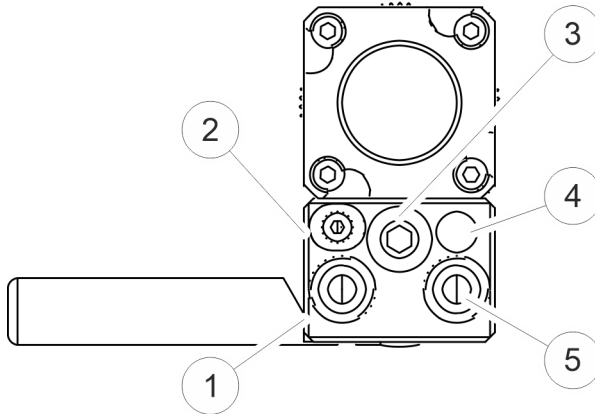

Fig. 11: Connecting the automatic spray gun
1. ➞ Connect control air "OPEN" to "ST A" ( Fig. 11/2).
2. ➞ Connect control air "CLOSED" to "ST Z" ( Fig. 11/4) (optional).
3. ➞ Connect the flat jet air connection to "F" ( Fig. 11/3).
4. ➞ Connect the material supply to input "M←" ( Fig. 11/1).
5. ➞ Connect the material circulation line to output "M←" ( Fig. 11/5).